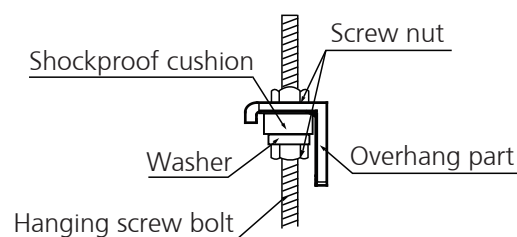

Fig. 4.12
9. Mount the indoor unit onto the hanging screw bolts with a block. Position the indoor unit flat using a level indicator to prevent leaks. (See Fig. 4.12).